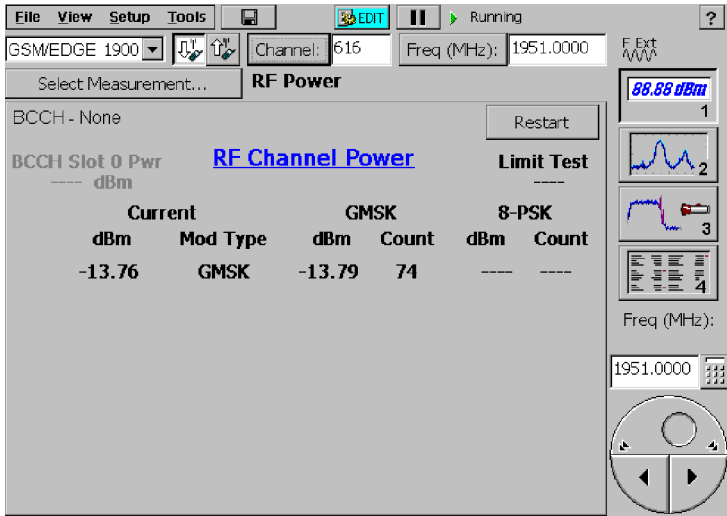

Figure 3-36: GSM/EDGE RF Power with BCCH turned off
- Off (no frame sync): Turns off BCCH frame sync, causing the YBT250 to attempt to acquire slot sync by using the power envelope ramps (edges) of the received signal. The YBT250 then measures one randomly-chosen slot. Figure 3-36 shows a typical RF Power measurement with BCCH set to Off.